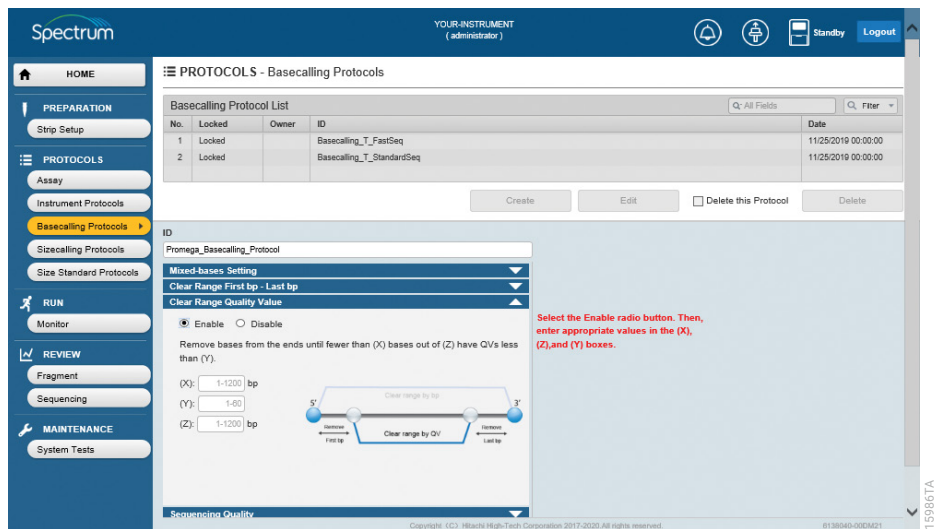

Figure 38. 'Clear Range Quality Value' pull-down screen.
- If desired, the clear range can be defined by a quality value instead of by entering defined start and stop base-pair locations for analysis. Select the **Clear Range Quality Value** pull-down menu and select the **Enable** radio button (Figure 38). In the **X** field, enter the number of bases that can have a QV lower than that specified in the **Y** field over a window size specified in the **Z** field. For example, "Remove bases from the ends until fewer than 4 bases (X) out of 30 (Z) have QVs less than 20 (Y)" is equivalent to no more than 4 bases over a window size of 30 bases can have a QV less than 20.